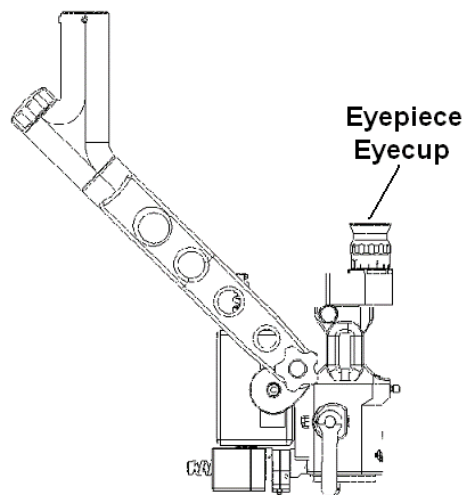

Figure 17: Eyepiece eyecup of the optical module
- Eyecups are threaded onto the eyepieces and it can be taken apart for cleaning purposes. Sterilization of them shall NOT be carried out in autoclaves or ovens (Figure 17).